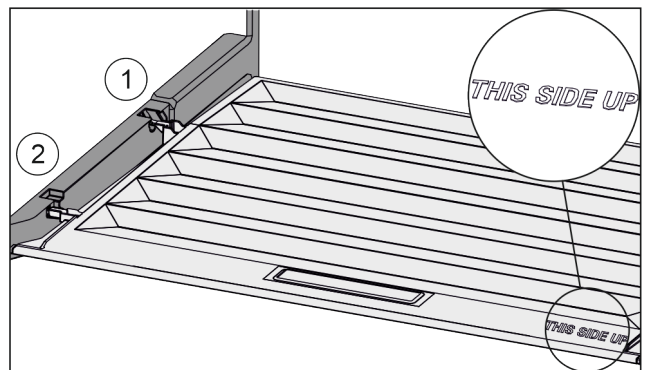

Fig. 148
- ▶ Insert the lip of the cover over the opening of the rear bracket Fig. 148 (1) and click into place Fig. 148 (2).